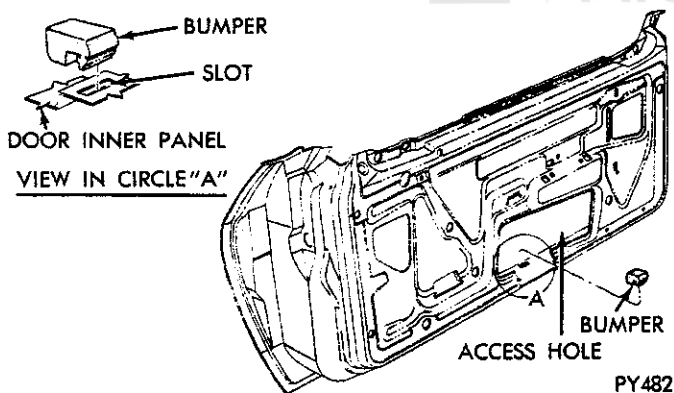
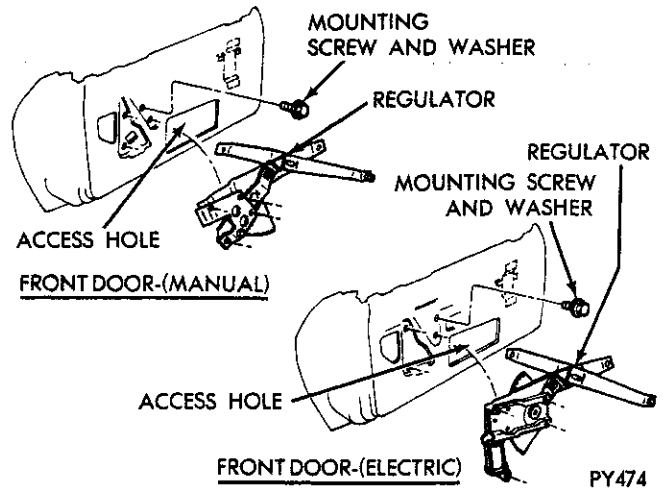

Fig. 31—Down Stops
Fig. 33—Front Door Regulator
(1) Install bumper door glass down stop (Fig. 31).
(2) Install pivot bracket front door regulator.
(3) Install regulator (Manual or electric) (Fig. 33).
GLASS DOWN STOP (Fig. 31)
FRONT DOOR REGULATOR (Fig. 33)